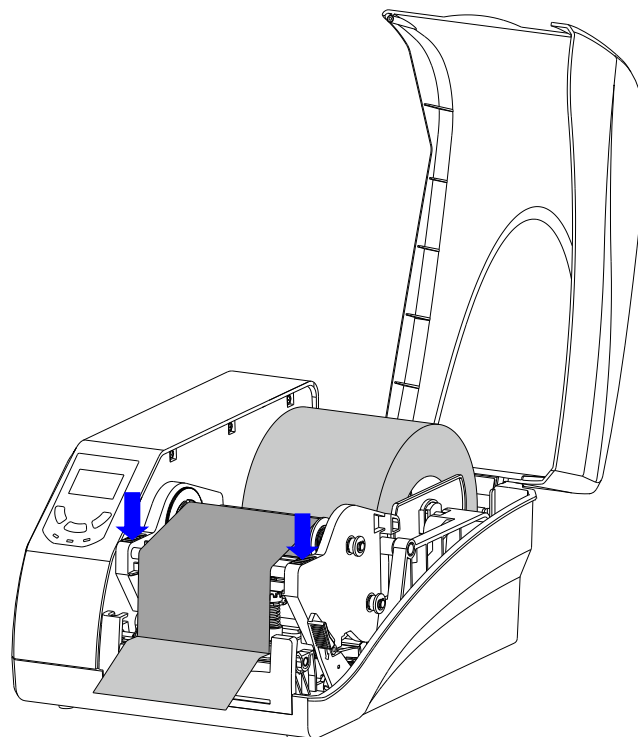

Figure 2-13 Press Down to Lock the Printhead Module
6. Press the Printhead Module downward until you hear a “click”, as shown in Figure 2-13.